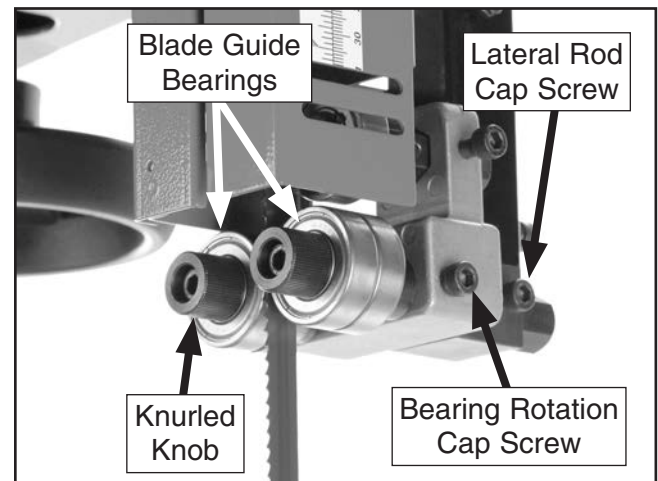

Figure 54. Blade guide controls.
- Familiarize yourself with the blade guide controls shown in **Figure 54**.